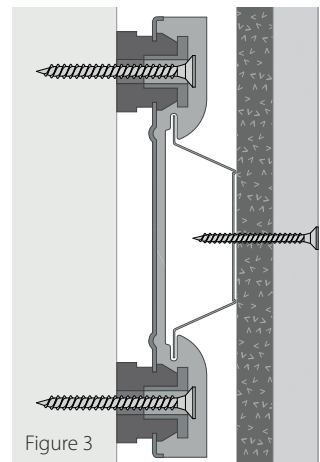

Figure 3
- ❑ Affix Isowave 23 or appropriate plasterboard to the Isobars with screws suitable for self drilling into the isobars with a max. length of 15mm beyond its collective depth (figure 3).